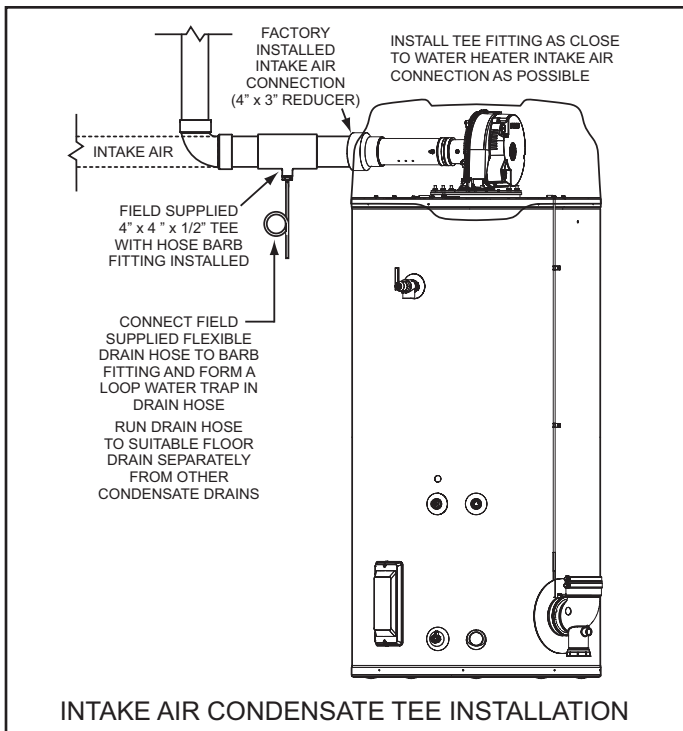

Figure 16
9. A field supplied condensate Tee fitting and drain hose must be installed in the intake air piping near the water heater in colder climates with heavy snow accumulations and in areas that regularly experience high humidity. The drain hose must be routed to an adequate floor drain separate from any other condensate drains. See Figure 16 on page 24.
Installations with any of these conditions are required to provide a moisture drain with a trap that flows to a waste drain. See Figure 16 and Figures 38-44. A horizontal section of the air inlet pipe, near the heater should include a 4" by 4" by 1/2" tee and a hose barb fitting to drain the water. The tee should be as close to the heater as is practical. The drain tubing in any installation should have a loop trap and flow to an appropriate waste drain. The air intake drain line must be entirely separate from the exhaust vent outlet condensate line.